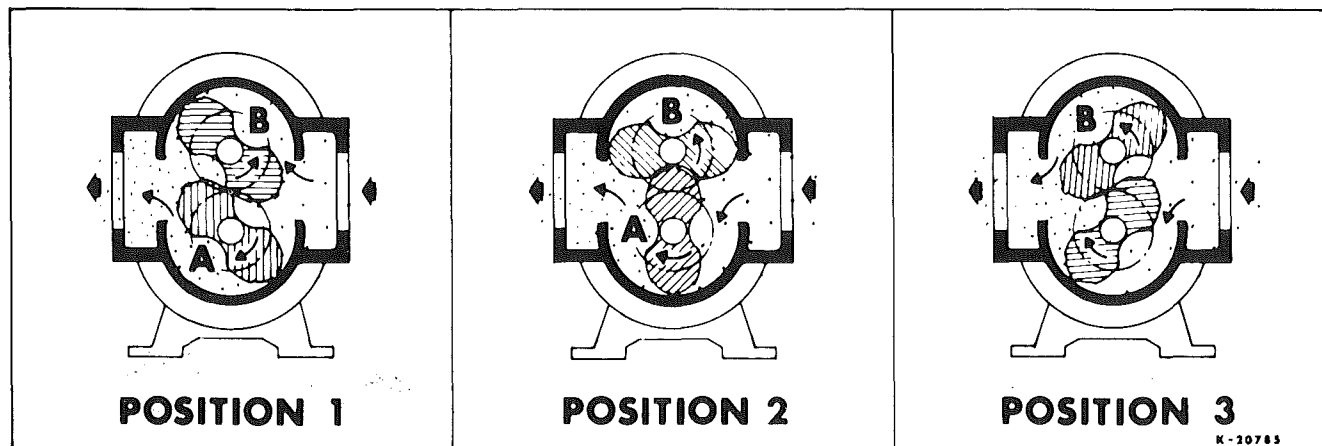

Figure 1 — Flow Through RCS Blower
Operation of the rotary lobe blower is illustrated in **FIGURE 1**, where air flow is right to left from inlet to discharge with the lower impeller rotating clockwise. In Position 1 it is delivering a known volume (A) to the discharge, while space (B) between the upper impeller and cylinder wall is being filled. Counterclockwise rotation of this impeller then traps equal volume (B) in Position 2, and further rotation delivers it to the discharge in Position 3. At the same time, another similar volume is forming under the lower impeller, and will be discharged when rotation reaches Position 1 again.